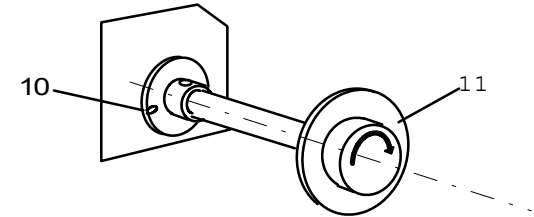

Figure 3. Aligning the Cutter
1. (Figure 3): Align the cutter by aligning the green mark to the opening (10).